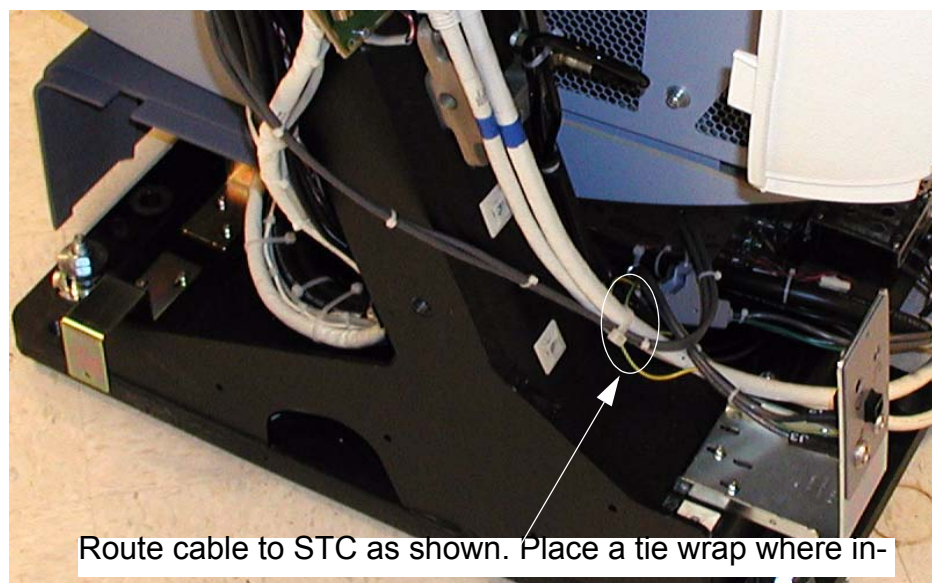

Figure 2-10 STC Cable Routing
- 2.) Tie wrap the STC connection cable as shown in Figure 2-10, on page 29. Be sure tie wrap is far enough down on the two cables to allow the base side cover to clear.